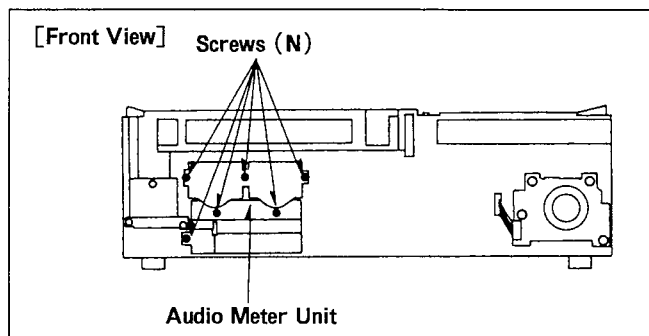

Figure D19
1. Unscrew the 6 screws (N) on the Audio Meter Unit. (Figure D19)